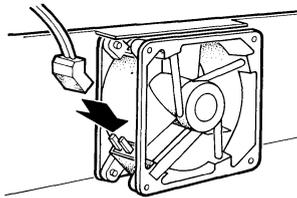

Figure 6-23 Rear Cooling Fan Power Cable Position
2. Place the power supply in position. Make sure you route the rear fan cable over the top of the rear fan (Figure 6-23).